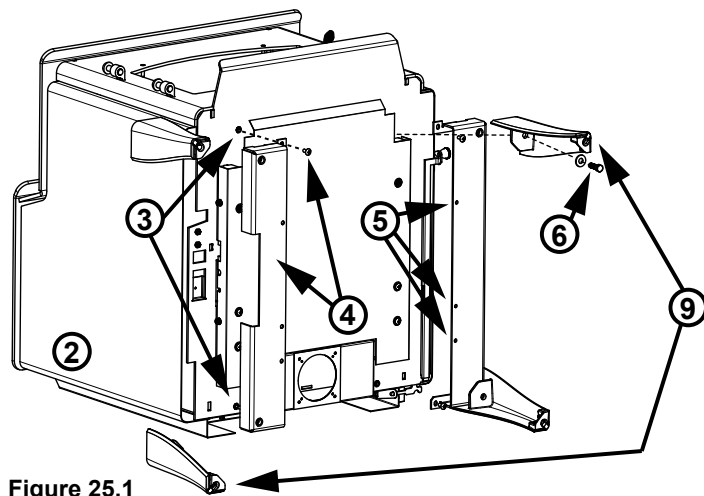

Figure 25.1
3. Remove four screws from bottom of appliance (**Figure 25.1**).
NOTE: There is a right and a left of the leg brackets (**Figure 25.1**).
5. Install six screws to the bottom of the leg brackets (**Figure 25.1**).
NOTE: Legs with leveling bolts need to be on opposite sides of the appliance - one in the front and one in the back (**Figure 25.1**).